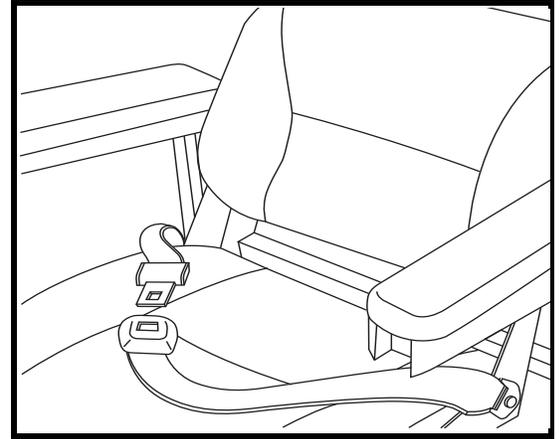

Figure 20. Positioning Belt Adjustment
Your power chair may be equipped with a positioning belt that can be adjusted for operator comfort. **See figure 20.** The positioning belt is designed to support the operator so that he/she does not slide down or forward in the seat. The positioning belt is not designed for use as a restraining device.
1. Once seated, insert the metal tab on one side of the belt into the plastic housing on the opposite side until you hear a click. **See figure 20.**